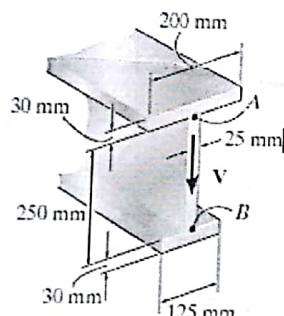

Fig. 6
6. If the beam is subjected to a shear of  $V = 15 \text{ kN}$ , determine the web's shear stress at A and B. Indicate the shear-stress components on a volume element located at these points. Show that the neutral axis is located at from  $y = 0.1747 \text{ m}$  the bottom and  $I_{NA} = 0.21821e-3 \text{ m}^4$ . (Fig. 6)